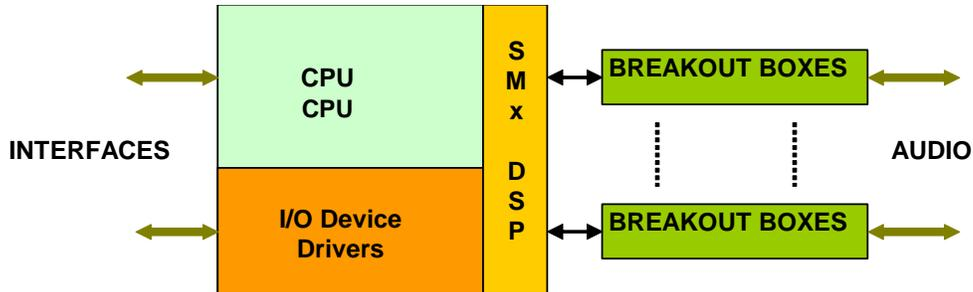

Figure 1, SMx System Architecture
Figure 1 shows a simplified overall view of the system. A CPU powers the system and runs the visual programming software, V+, which controls all aspects of the system. Audio signals are connected to the system via ¼" phone plugs on the breakout boxes. Each breakout box features eight inputs and eight outputs, and one (1) system chassis can support up to eight breakout boxes for a total of 64 inputs and 64 outputs. The flexibility of the SMX system allows any configuration from one (1) to eight (8) external boxes resulting in 8 to 64 channels.